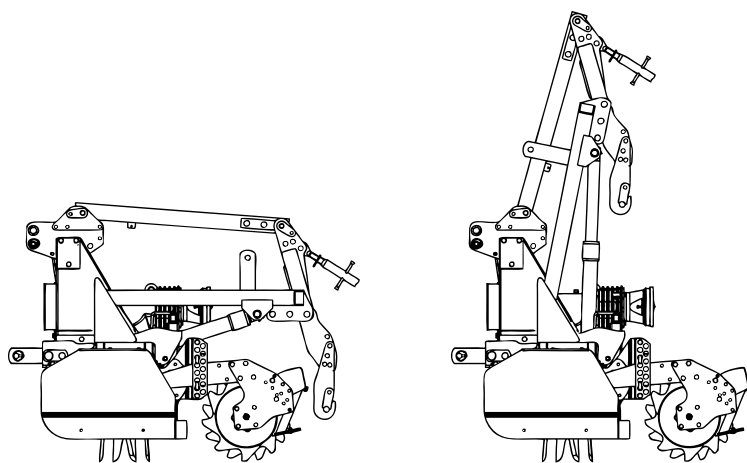

Fig. 8
4.4 MACCHINA COMBINATA CON ATTACCO SEMINATRICE (FIG. 8)